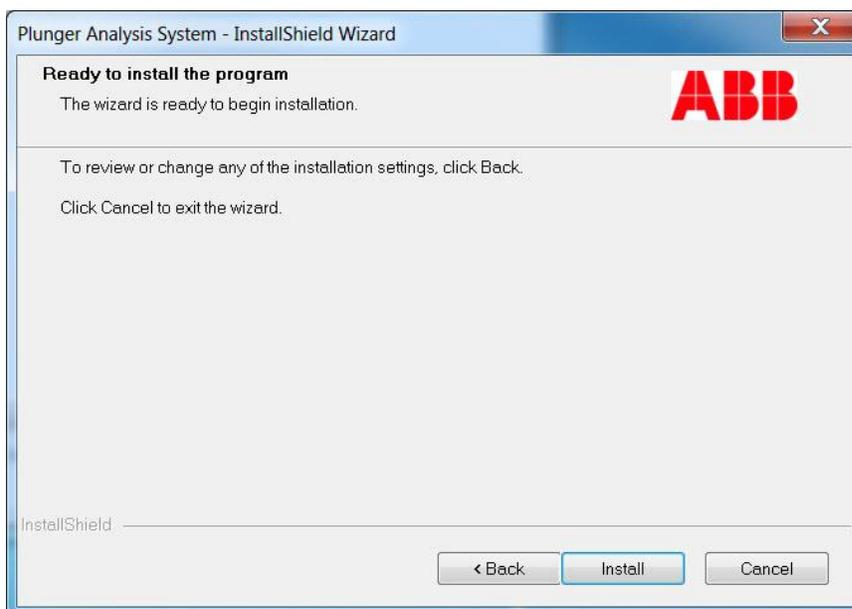

Figure 24: Ready to install the program installation screen
22) At the Ready to install the program screen (Figure 24), click **Install**.